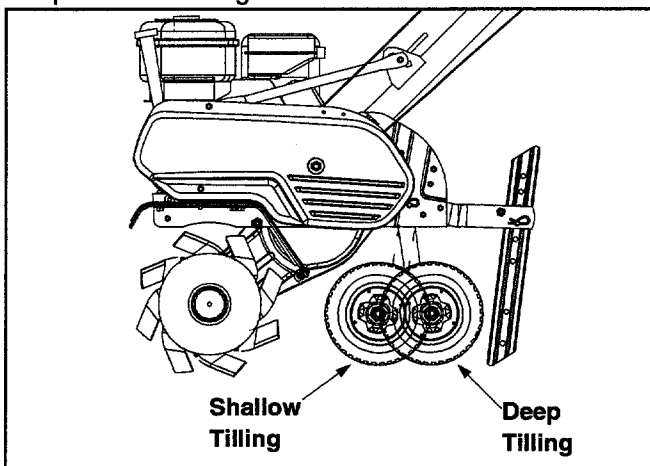

Figure 8
**Wheel Yoke Adjustment:** Place wheel yoke so that the wheels are forward (closest to the tines) for shallow tilling, cultivating, and transport. The forward speed will increase. Turn yoke around (farthest point from the tines) for deep tilling and forward speed will decrease in this position. See Figure 8.